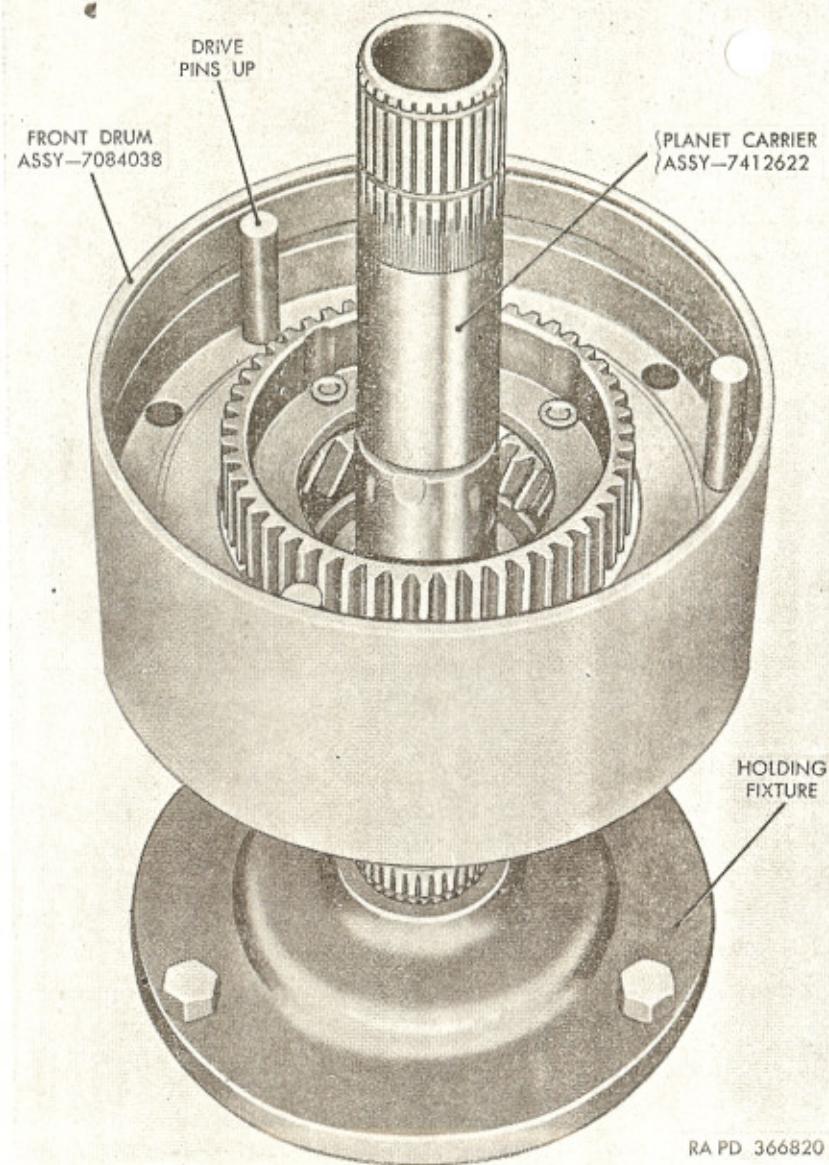

Figure 111. Front drum positioned on planet carrier to facilitate assembling front planetary unit.
b. Place front drum assembly (A), with drive pins up, over hub of planet carrier (fig. 111) and rest on planet carrier pinion gears.
c. Apply clean engine oil (OE 10) to both sides of clutch plates. Install four clutch driven plates (B) and five clutch drive plates